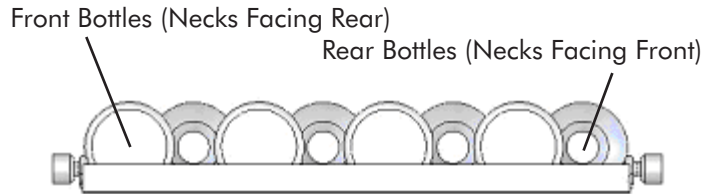
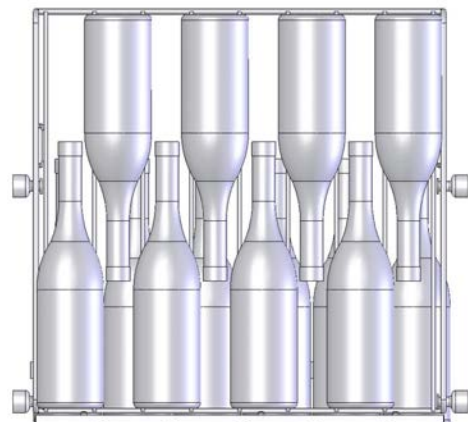

Figure 6
Figure 8
The wine rack pull-out shelf holds eight (8) bottles. See Figure 6 and Figure 8 for typical wine bottle orientation. The wine rack is located at the bottom of the cabinet just above the fixed wooden bottle cradle which will store 6 bottles of wine. The glass and metal shelves and the fixed wire rack are for general beverage storage, such as beer and soft drinks. The glass shelf also acts as a zone separator to create a warmer zone (3° - 5°C warmer than set point) for improved wine storage. Removal or relocation of this glass shelf may adversely affect compartment temperature control. Opened wine bottles and tall beverage containers may be stored on the metal shelf closest to the cabinet top.